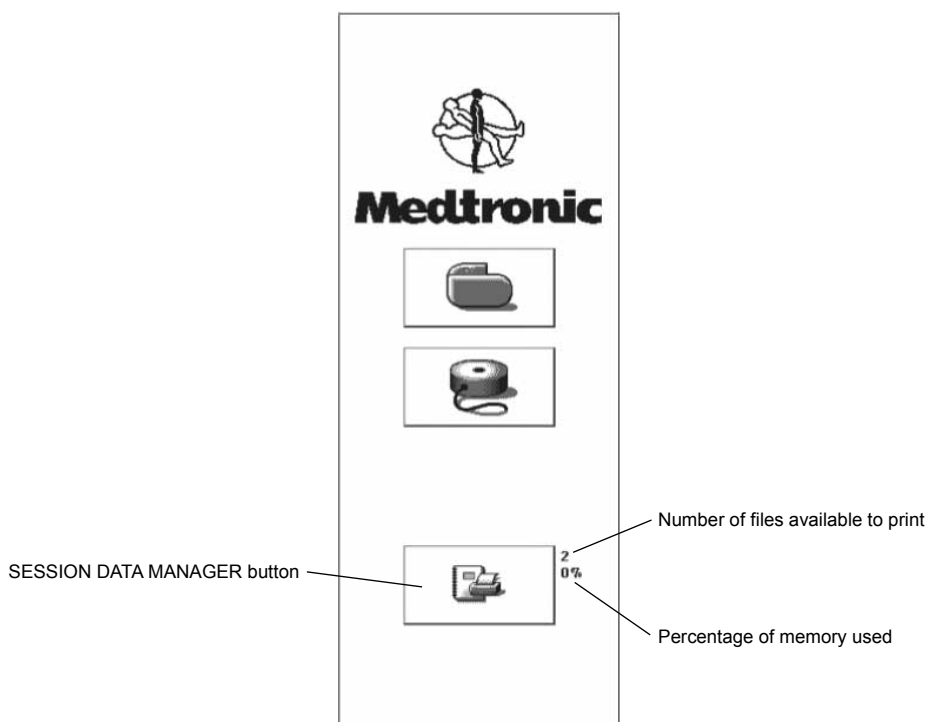

Figure 46. APPLICATION SELECTION screen.
The APPLICATION SELECTION screen displays the session data file status when the Model 8840 Clinician Programmer is turned ON (Figure 46 on page 80):
1. Select the SESSION DATA MANAGER button (Figure 46) from the APPLICATION SELECTION screen or the slider bar (Figure 4 on page 11).